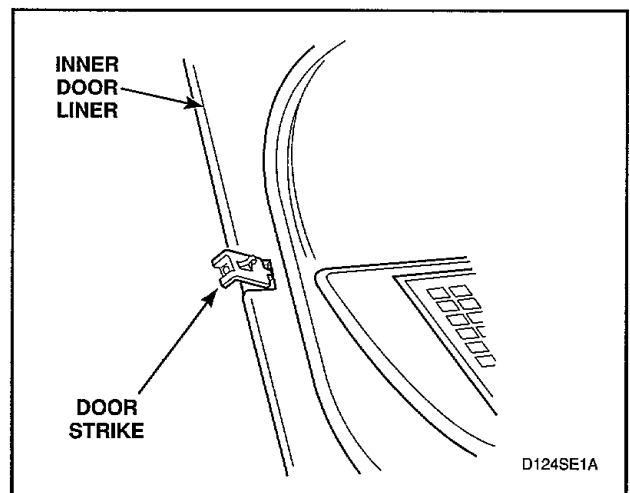

Figure 20
- Remove door strike from door liner, *Figure 20*, and reinstall strike on opposite side.